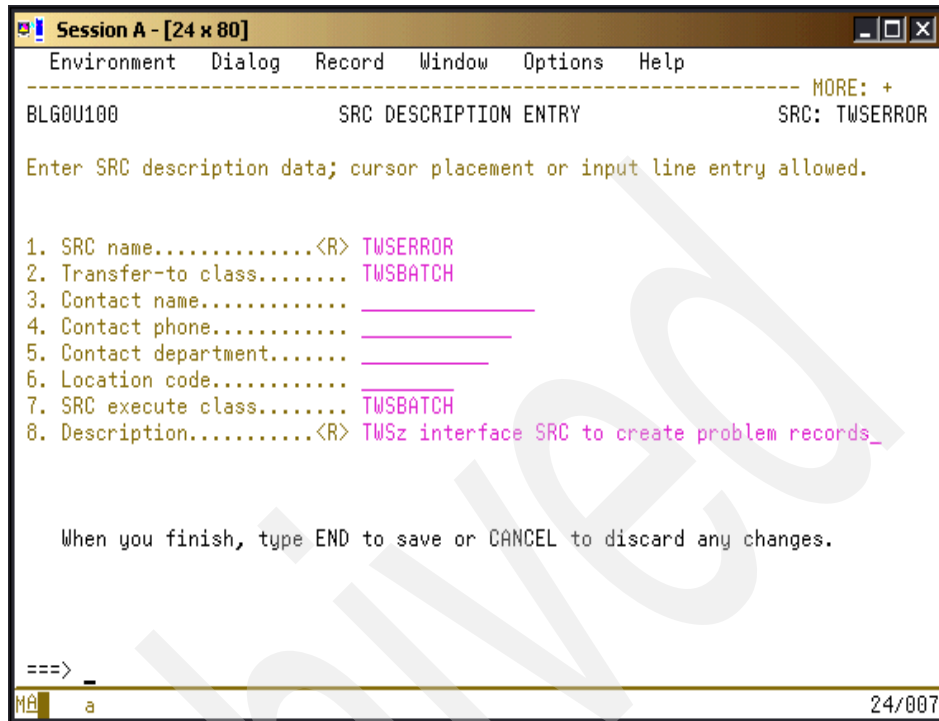

Figure 2-15 SRC description entry panel
2. The SRC DESCRIPTION ENTRY panel as shown in Figure 2-15 displays.